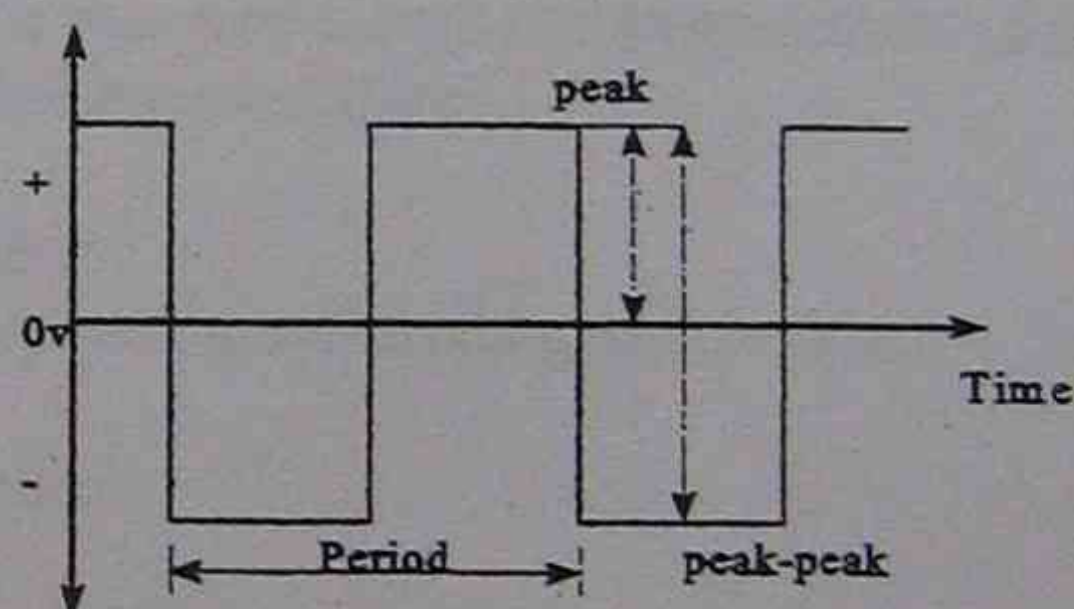

Figure 3: Voltage and Time Values for a Square Wave
- (c) Using the same procedures described for the sine wave, measure the frequency and the peak to peak output voltage of the square wave. Figure 3 shows how these measurements apply to a square wave. Record the readings and CRO settings in Table 3.